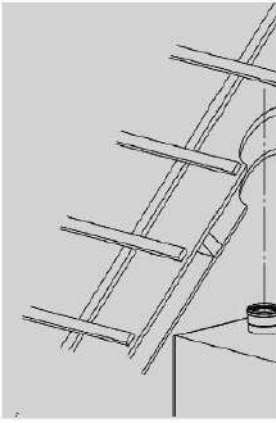

Figure 4.18 Location
3. Determine the location of the roof penetration. See figure 4.18.
4. Cut a hole from the exterior of the roof. Assure that no wood shavings, dust or dirt drop into the boiler exhaust or air intake piping. See figure 4.18.